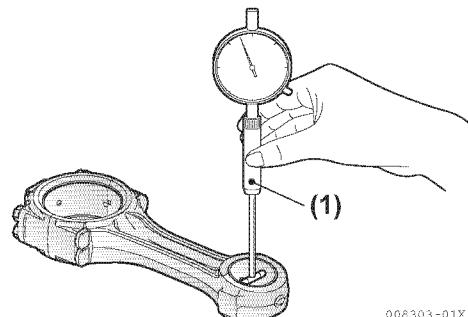

Figure 5-102
- Measure the piston pin bearing inside diameter and the piston pin outside diameter. Calculate the oil clearance from the difference of the measured values (**Figure 5-102**). See *Measure the outside diameter, roundness and taper at each crank pin and journal. Resurface the crankshaft pins and journals if measurements exceed specifications.* on page 5-73.